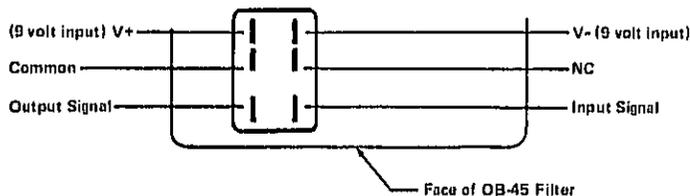

Figure 10. External Connector Pins
**External Connector** — A six-pin Cinch-Jones type connector for electrical connection to the 215 Sound Level Meter. The pins on this connector are identified in Figure 10.